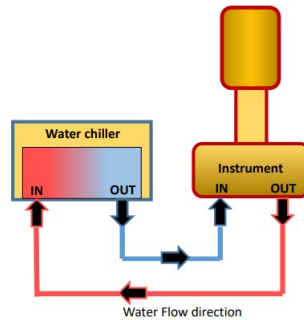

Figure 1. Water chiller hook-up.
- Water hose set up should follow the diagram in Figure 1 below. Instrument water flow “out” connects to water chiller flow “in” and water chiller flow “out” connect to instrument water flow “in”.